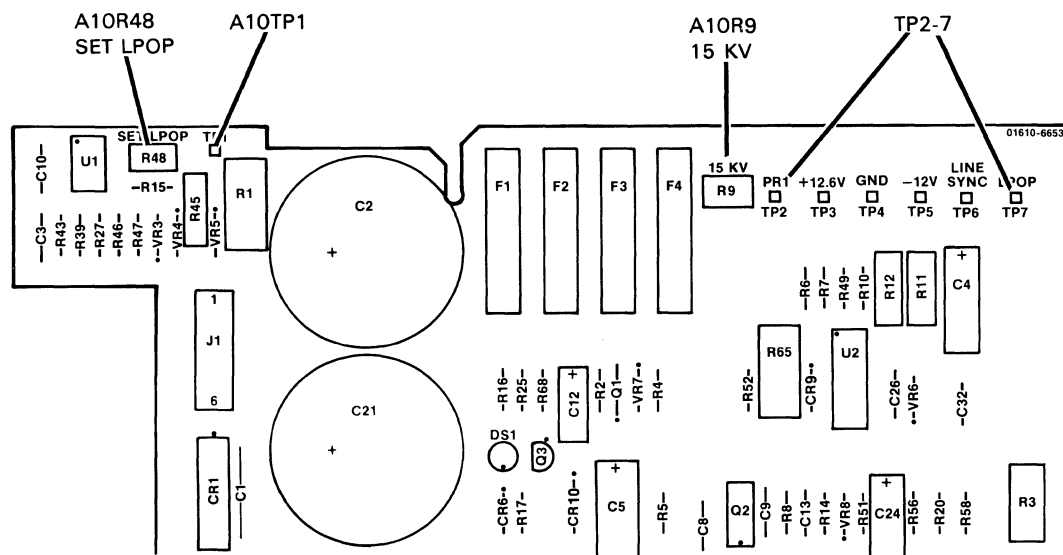

Figure 5-3. Power Fail and 15 kV Adjustment Locations
Figure 5-3 and Service Sheet 4A.
- Adjust A10R9 (SET 15 kV) for 510 V $\pm$ 10 V (see figure 5-3 and Service Sheet 4A).